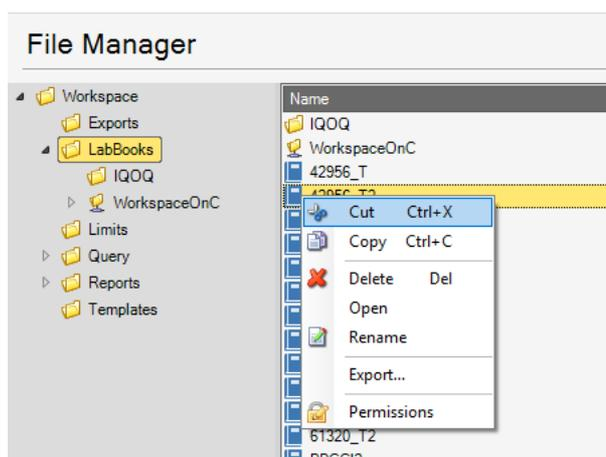

Figure 4-61. Shortcut menu of file for cut
2. Right-click the file you wish to cut, see Figure 4-61.